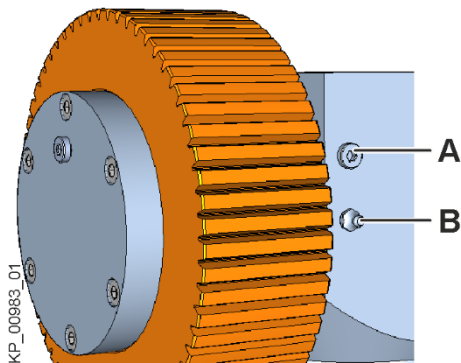

Fig. 41: Pan grinder head with lubricating nipples
- ⇒ Check whether grease emerges at the bore of the screw plug (Fig. 41/A).
- Remove the screw plug (Fig. 41/B) from the pan grinder head.
- Clean the area around the lubricating nipple (Fig. 41/B) and the mouth piece of the grease gun.
- Slowly and gently press in grease until fresh grease emerges at the screw plug (Fig. 41/A).
- Mount the screw plug (Fig. 41/A) and lock it with Loctite.